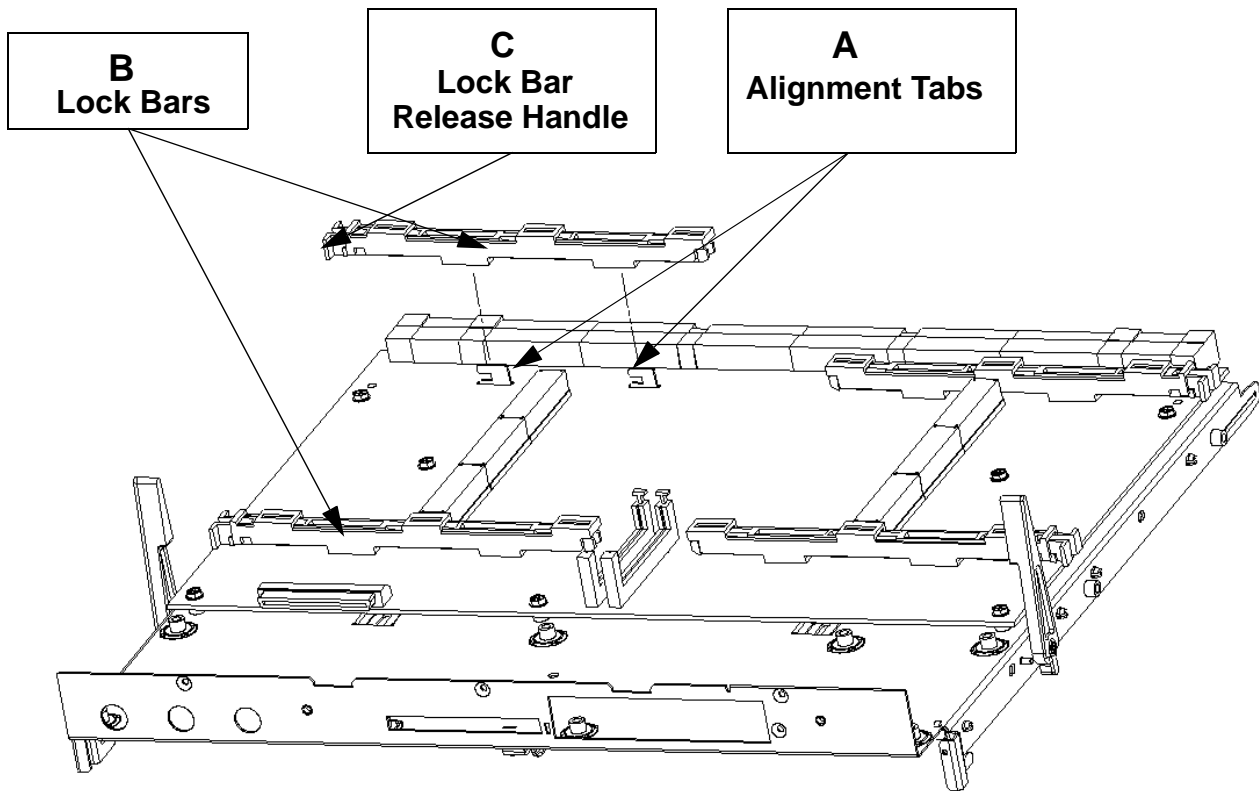

Figure 2-8: Profusion[®] Carrier Tray
Assembly of the Profusion carrier board, and mezzanine boards to the Profusion carrier tray, is performed outside the chassis. To start the assembly, install the Profusion carrier to the Profusion tray by aligning the eight tabs on the tray with the slots on the board (See Figure 2-8 (A)). Next, install the FPC board by passing the FPC switches through the switch openings in the tray and